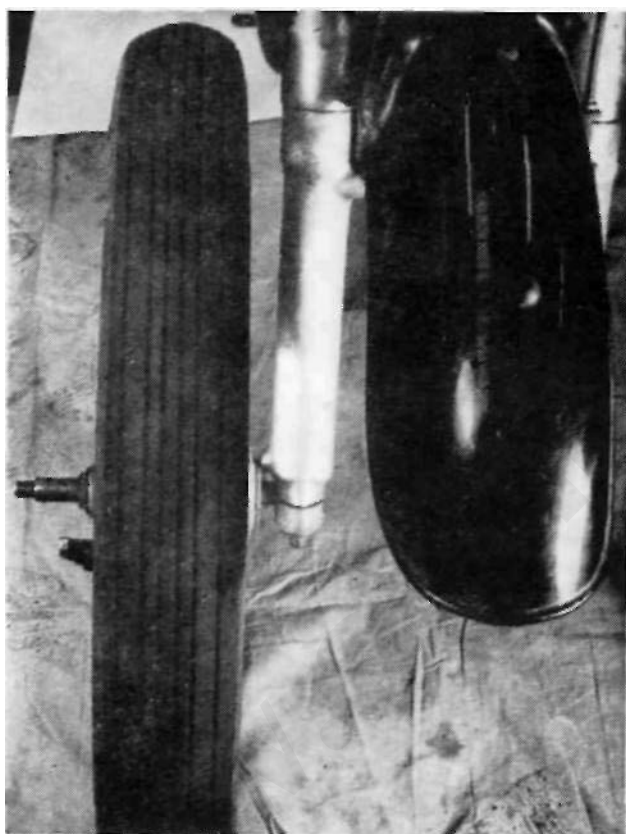

FIG. 82
**Removing the plate lock nut.** If there is difficulty in releasing this nut and a vice is not available, put the wheel spindle into one of the fork slider caps, with wheel outside the forks and tighten the clamp nuts, which will act as a temporary vice, see Fig. 82.